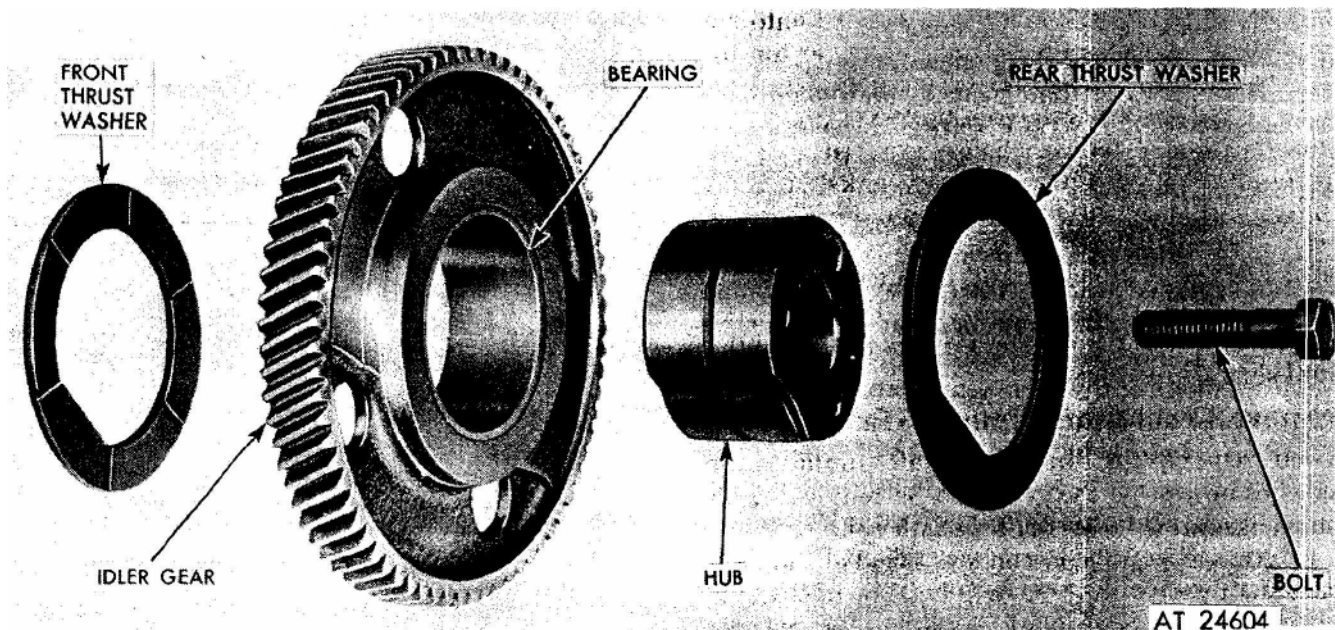

Figure 3. Idler gear details and relative location of parts.
1. Remove the idler gear outer thrust washer from the idler gear hub (fig. 3).